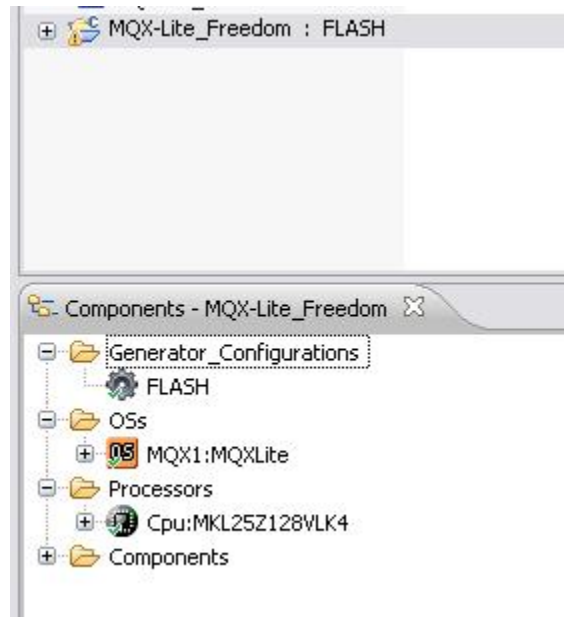

Figure 8. CodeWarrior Projects and Components window
6. When the wizard finishes, CodeWarrior has a new appearance see Figure 8. There are two main changes. The CodeWarrior Projects window has a new project included and the Components window shows the Processor Expert added components.